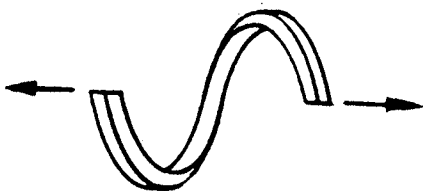

Fig. 9A. Correct
d) To install packing rings, do not pull straight. Expand the coil as a coil spring, see Fig 9A and 9B for the correct and incorrect method of installing packing.